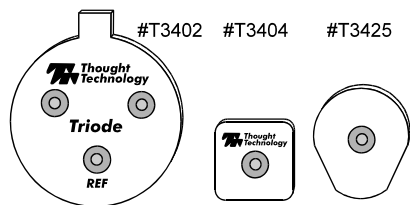
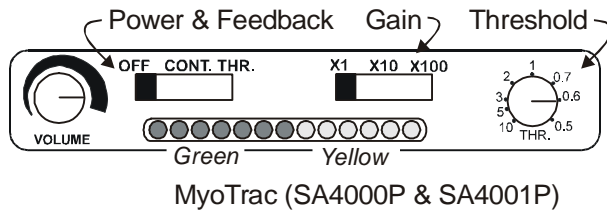
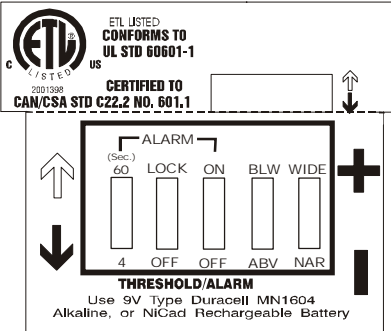

Fig. 2 Triode, single and Uni-Gel electrodes
Fig. 6 Front Panel
Fig. 7 Battery Compartment Controls
Plug the MyoScan sensor into the **INPUT** jack. Set the switches inside the battery compartment to: **OFF, OFF, ABV, NAR** (fig. 7). Set the gain switch to the **x1** position. Turn the volume up. Set the threshold potentiometer to **10**. (fig. 6). Snap a Triode electrode on the three MyoScan connectors (fig. 2). Hold the MyoScan sensor on your cheek with a light pressure, placing it just below the cheekbone (over the temporomandibular joint). Make certain that all three electrodes contact the skin. Observe the tone and bargraph reading as you tense and relax your jaw by clenching your teeth. *When the first yellow LED lights up, the actual EMG reading corresponds to the threshold value that is set on the **THR.** Dial, in this case, 10 $\mu$ V.*
**Disposable Triode Electrodes (#T3402M):** Disposable electrodes avoid cross contamination of patients. The foam-backed triangular Ag-AgCl (silver-silver chloride) Triode electrodes can be used for scanning most muscle sites for activity. Remove the back covering exposing the adhesive to firmly hold the MyoScan sensor in place (see figure 2). Generally, no skin surface preparation is required; however, for guaranteed stability over very dry or hairy areas, clean the target site with an alcohol wipe or apply a tiny dab of electrode gel to each electrode. Be careful to avoid applying the electrode gel to the skin between electrodes, which could attenuate the signals.
When an extender cable is used, Disposable Single Electrodes (#T3404) or Disposable Uni-Gel Electrodes (#T3425) are snapped in the three electrode buttons (see figure 2 & 3).
The front panel (see figure 6) includes controls for sound level (**VOLUME**), threshold level (**THR**), three gain settings, **x1**, **x10** and **x100** for ranges of .08-20, .08-200 and .08-2000 microvolt ( $\mu\text{V}$ ). R.M.S., respectively. Also, a power switch lets you select **OFF** and either continuous proportional tone feedback (**CONT**) or threshold feedback (**THR**). Threshold feedback allows you to set control parameters for the tone feedback to be enabled or disabled when the EMG signal exceeds or falls below the threshold setting of the threshold control. The various threshold functions are chosen from the switch settings in the battery compartment.
Within the battery compartment are switches to set a variety of choices as follows: (see figure 7)